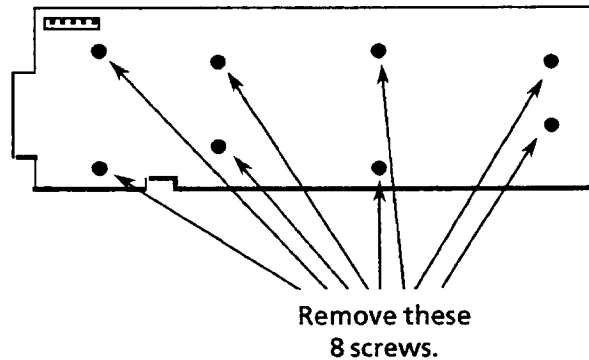

Figure 8-20: Screws holding the Main board (A3) in place
5. Remove the eight screws that are holding the board in place. See Figure 8-20 for their locations.